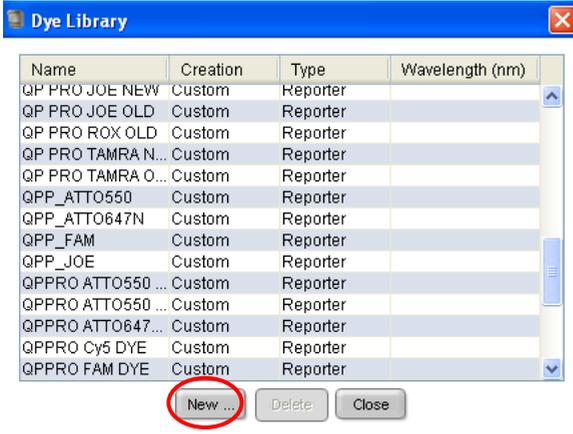

Figure 5. Selecting new dye calibration from the Dye Library.
5. In the **Dye Library** window click **New** (Figure 5).